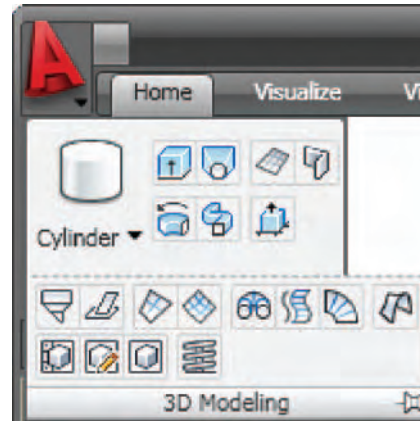

Fig. 12.4 The 3D tool icons in the Home/3D Modeling panel
1. A *click* on a tool icon in the **Home/3D Modeling** panel (Fig. 12.4).